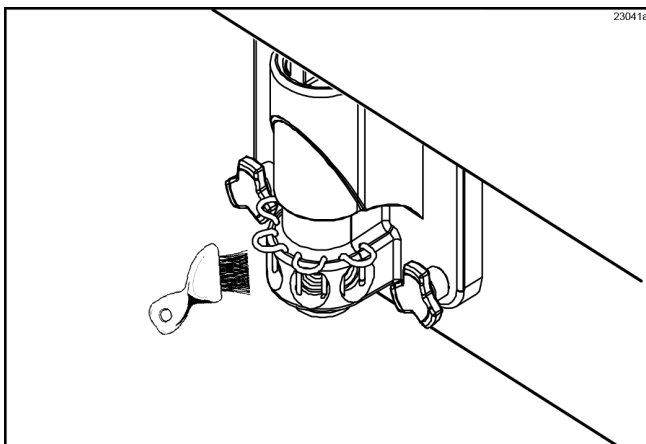

Figure-56
11. With the syrup-port brush, brush each syrup port hole 10 to 15 times. Dip the brush in the cleaning solution before brushing each port. (See Figure-56.)